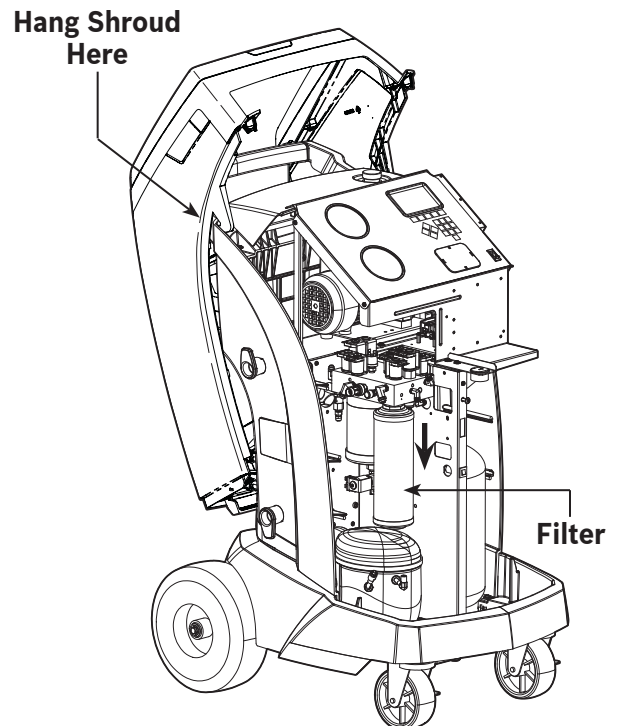

Figure 9
3. Hang the shroud on the back of the machine as shown in Figure 9.
5. Look at the new filter - verify both o-rings are lubricated and correctly located in the grooves as shown in Figure 9.
6. Install the new filter by threading it clockwise into place. Verify the filter is positioned correctly as shown in Figure 9. Tighten the filter to 20 N·m.